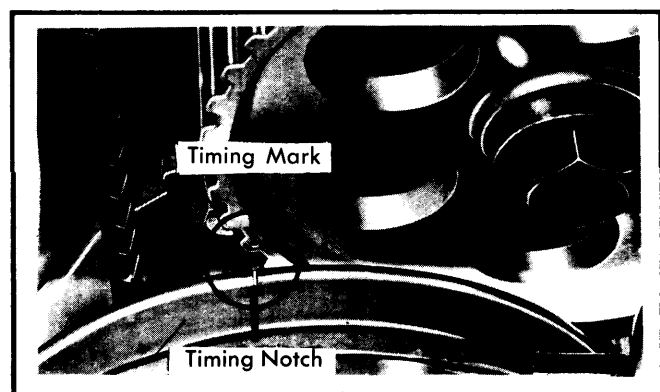

Fig. 4 Intermediate Shaft Sprocket Aligned with TDC Notch in Crankshaft Pulley
2) Turn crankshaft pulley and intermediate shaft sprocket until notch in crankshaft pulley is aligned with punch mark on intermediate shaft sprocket. See Fig. 4. Slide camshaft drive belt in place and adjust tension, as previously described.